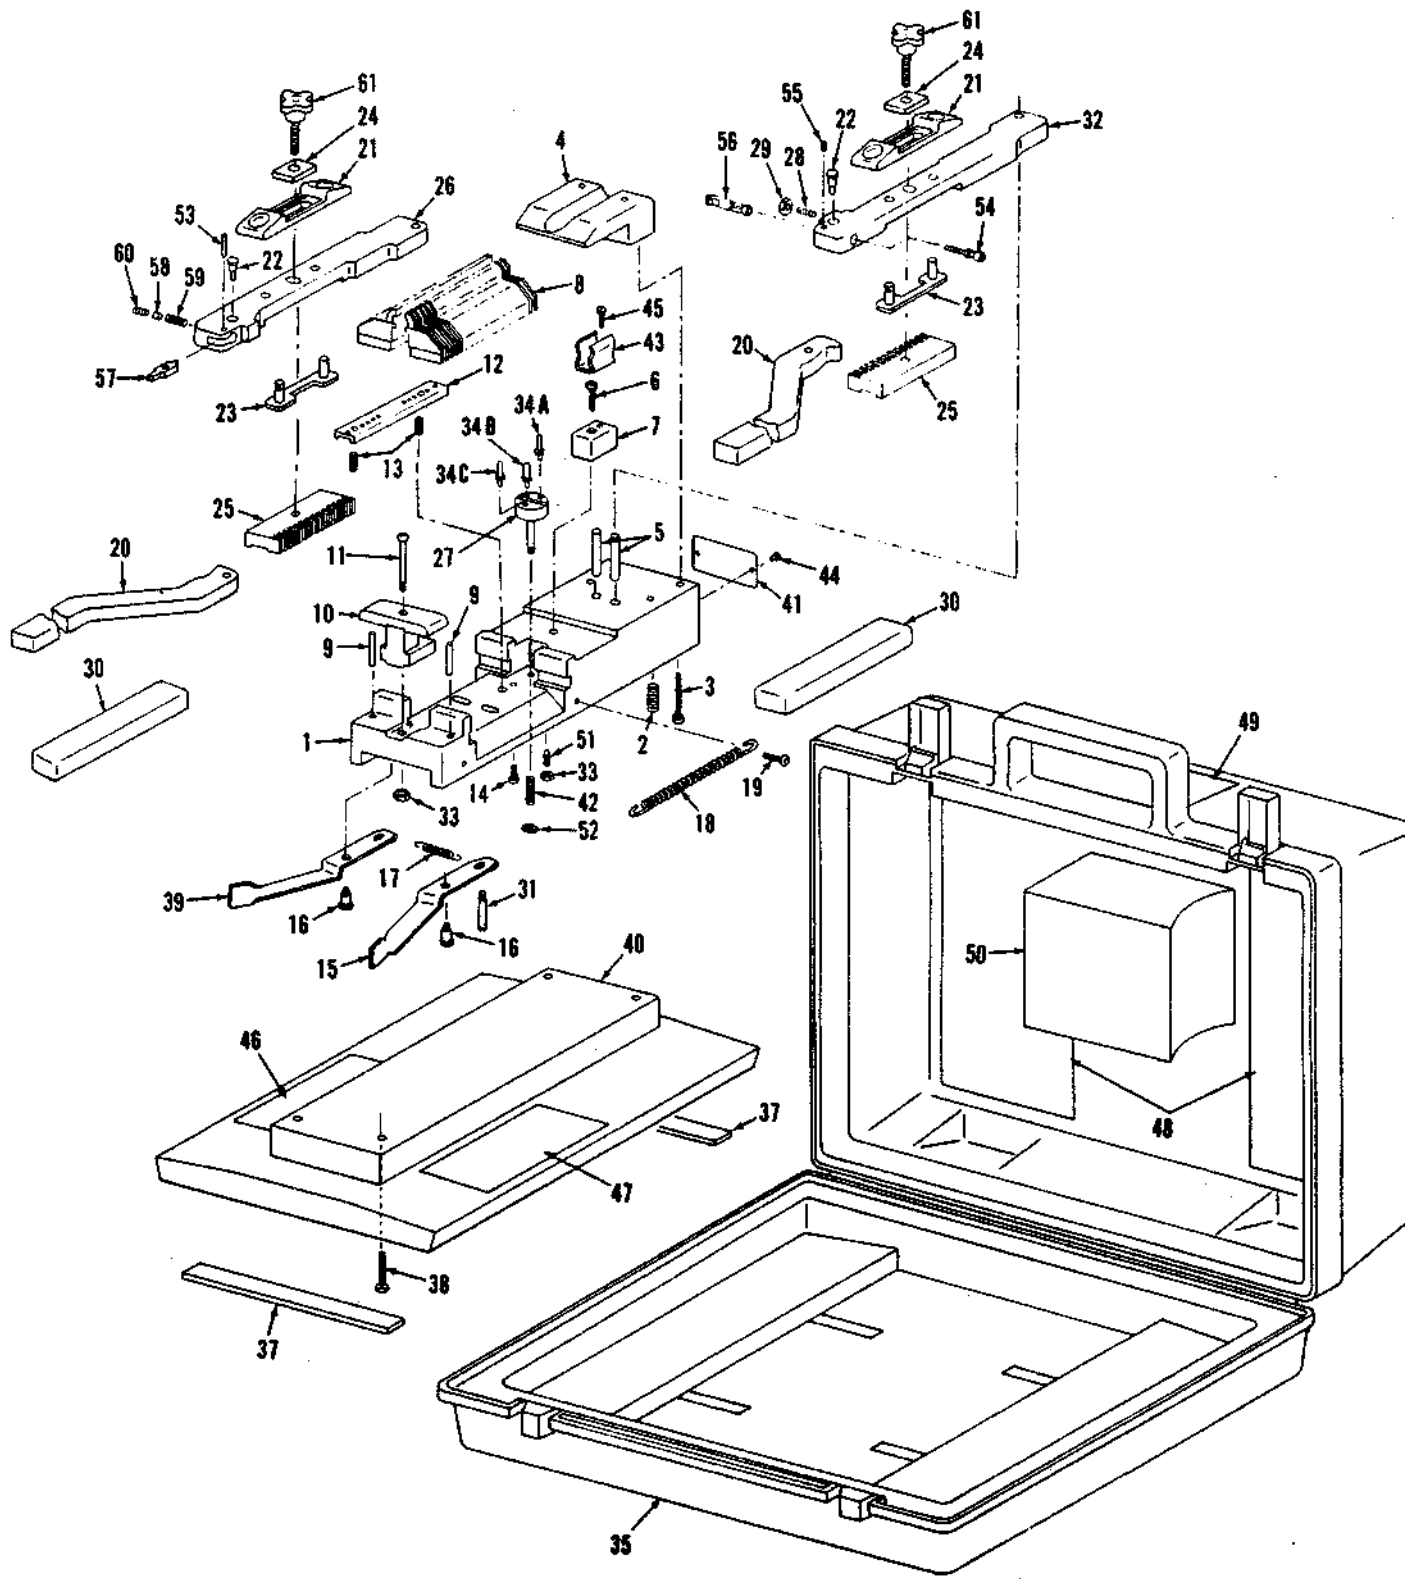

Figure 5-1. Multiwire Termination Tool, Exploded View
The instructions in the following paragraphs are important for the correct operation of the wire termination tool. Figure 5-1 is an exploded view of the tool and Section V contains the parts list.
Periodically lubricate all wear areas (see Figure 5-1) on combs (8), comb spreader pin (31), comb levers (22, 23), tooth carriers (26, 32), pivot pins (22, 9) and spring ends (17) by applying a thin coat of Molykote Number 505. Wipe off all excess lubricant.
To insure that wire insertion depth is correct, adjust setscrew (28) on right hand tooth carrier (32) as follows (refer to Figure 5-1):
c. Check that spacing between tooth plates (25) is 0.095-0.105 inch. If not as specified, loosen nut (29) and adjust setscrew (28) for correct spacing and tighten nut.
e. Check that spacing between tooth plates (25) is 0.185-0.195 inch.
f. Setscrew (28) should come in contact with left hand tooth carrier (26) with tool handles closed together after final adjustment.
Replacement parts for the Amphenol wire termination tool are shown in the exploded view, Figure 5-1, and in the accompanying parts list.